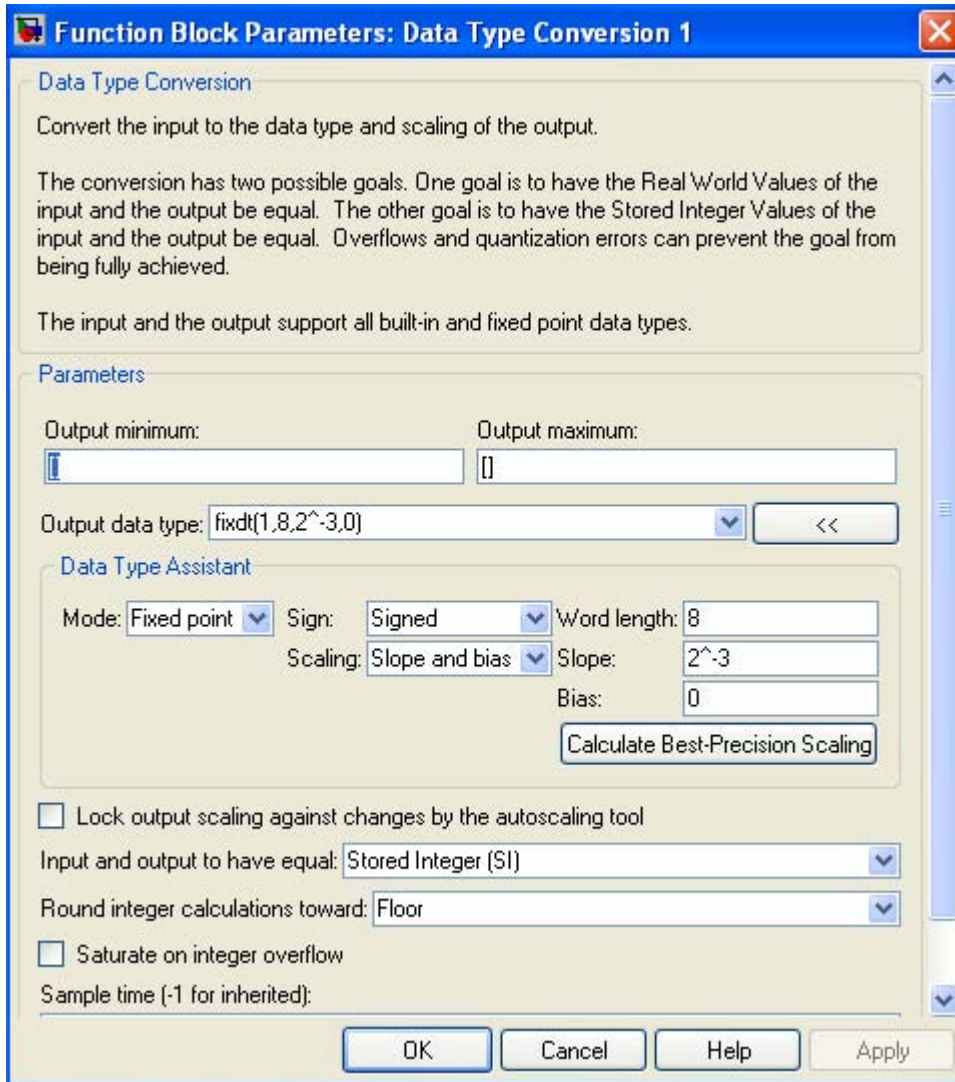

Figure 2.37. Function Block Parameters dialog box for the Data Type Conversion 1 block in Figure 2.36
In the **Data Type Conversion 1** block the input is processed as **Stored Integer (SI)** and scales the value 63 to be shown as 7.875. This is because the **Data Type Conversion 1** block parameters are specified as shown in Figure 2.37.
We observe that the **Output data type** field in Figure 2.37 displays `fixdt(1,8,2-3,0)` indicating that the output data are expressed in fixed point, the first number (1) within the parentheses indicates a signed number (it would be 0 for an unsigned number), the second number (8) is the Word length, the third number (2⁻³) is the slope, and the last number (0) is the Bias.